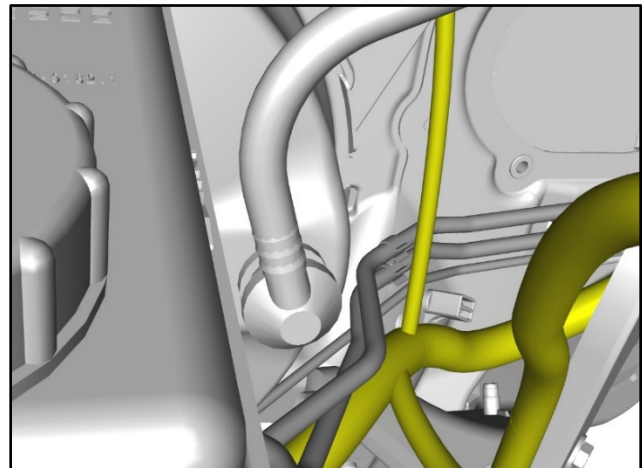

Figure 34
3. Route the wiring harness correctly around the brake lines (refer to Figure 34).